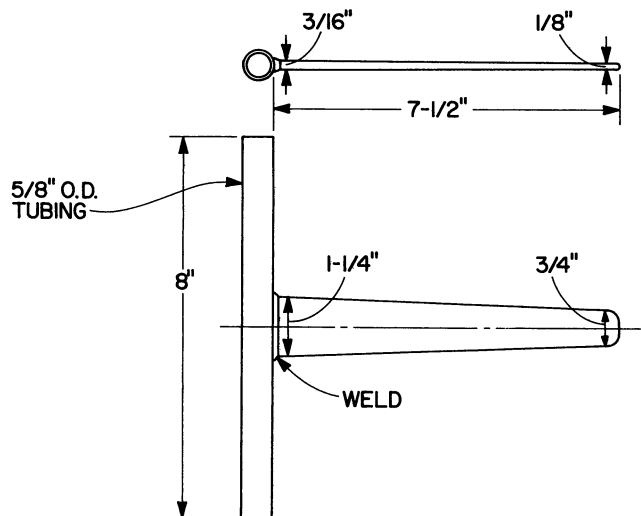

Figure HE-107-11 -- Coil Spacing Tool
Special Tools Required: Same as for DISASSEMBLY above plus a coil spacing tool as shown in Figure HE-107-11.
- Space the coil tubes evenly throughout the Heater, with each tube space about 1/8" wide. It is especially important that no tubes rest on any coil unions. A spacing tool may be made up similar to that shown in Figure HE-107-11 (available from AERCO, Part No. 12523). Insert the tool flat between the coil tubes and twist the tool until the desired spacing is obtained.
- R8. Clean all gaskets and gasket surfaces thoroughly. AERCO recommends that new Gaskets (74) be used whenever reassembling either the Upper or Lower Head to the Shell.